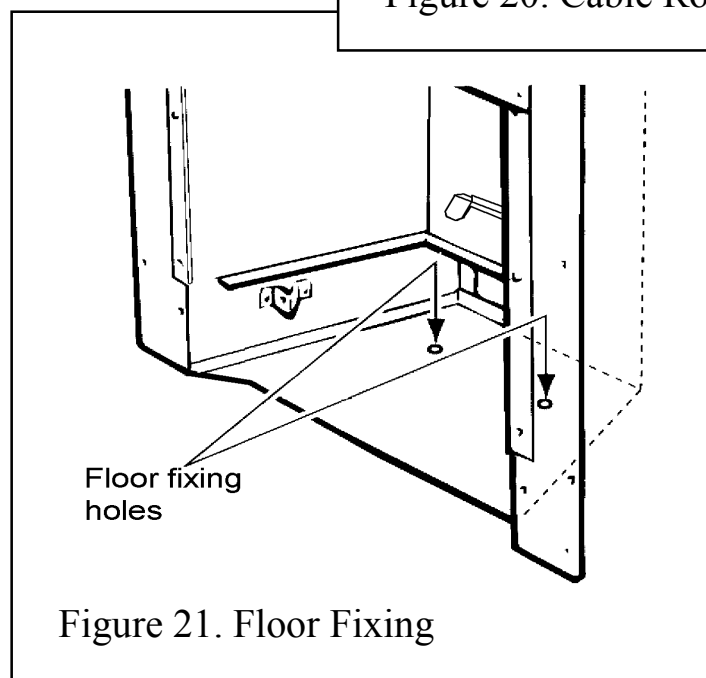

Figure 21. Floor Fixing
8. Drill a hole into the fireplace floor through each of the two holes in the base of the convection box using a no.12 masonry drill. See figure 21.